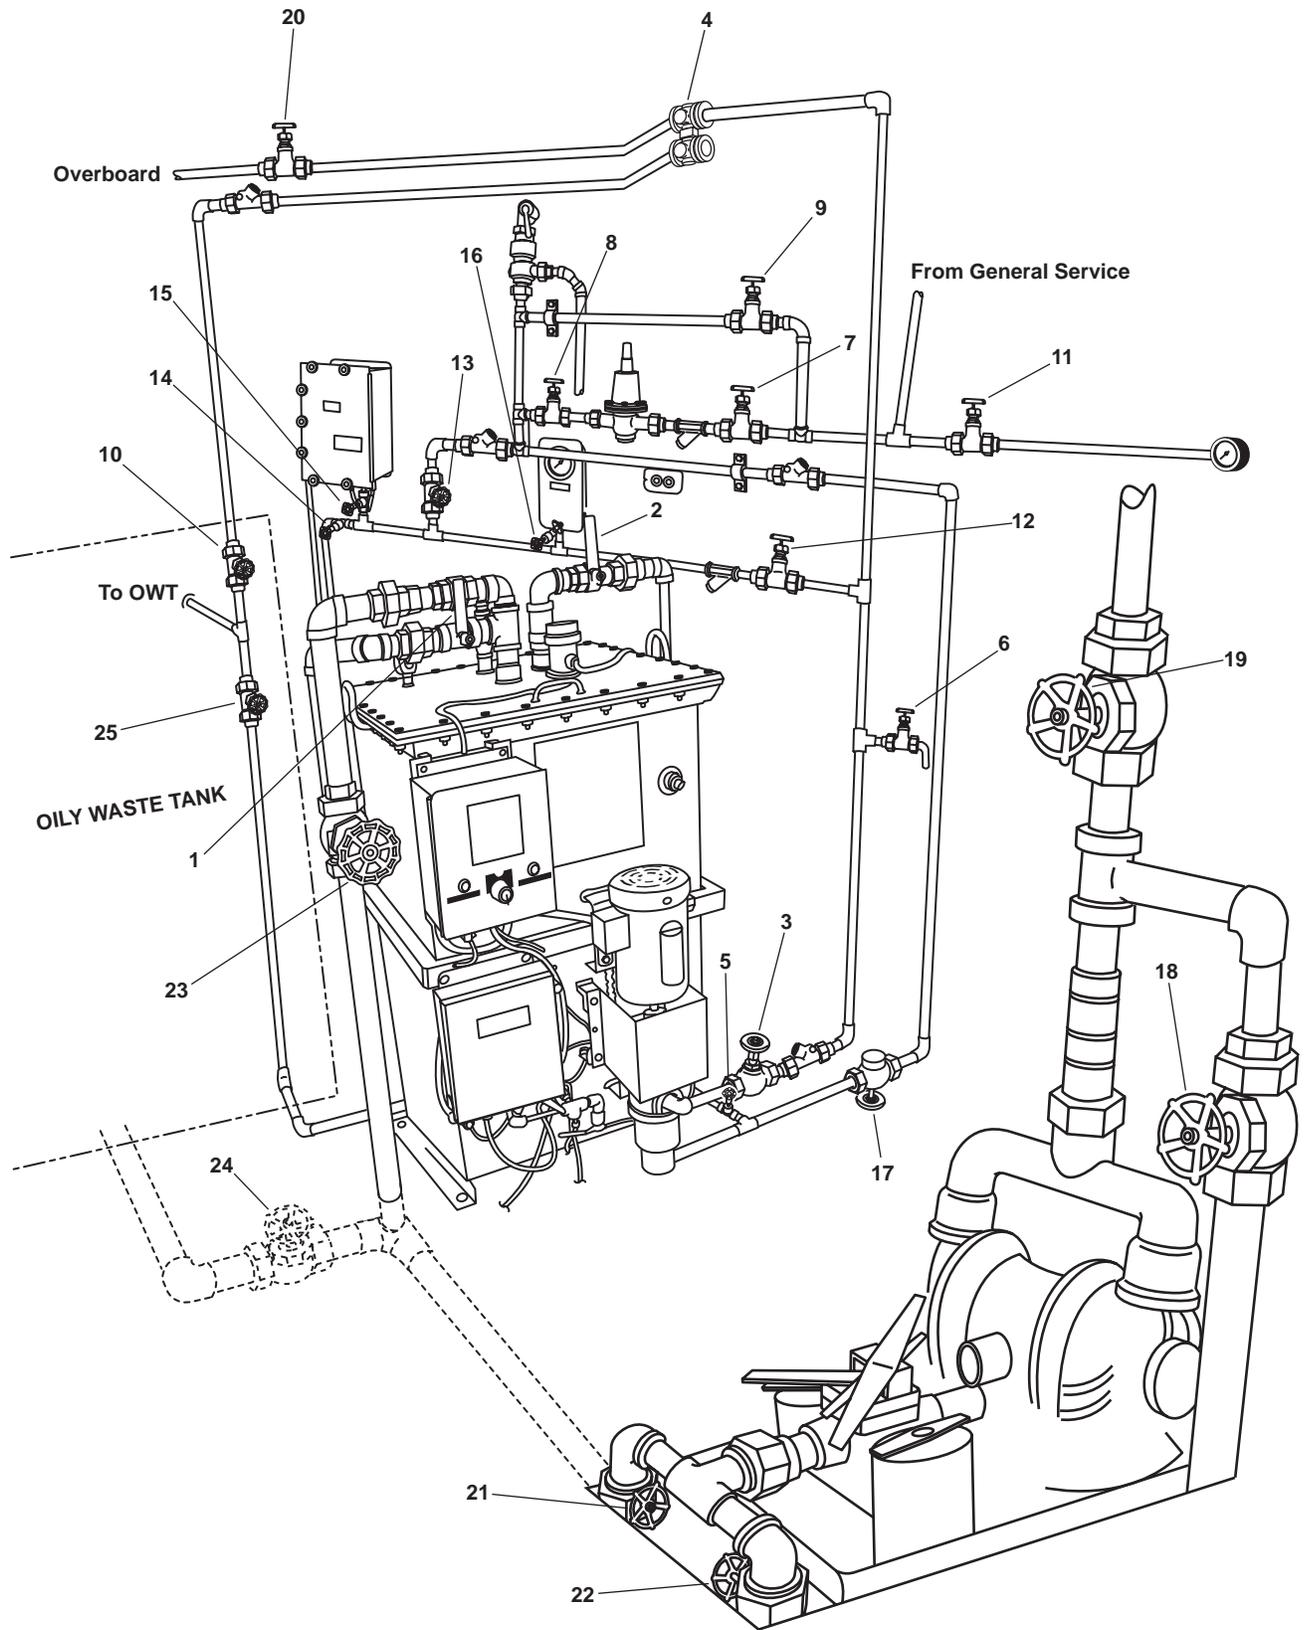

Figure 4. OWS, OB and OCM Piping
1. Align the OWS, the Oily Bilge (OB), and Oil Content Monitor (OCM) valves as indicated in table 1 and figure 4.